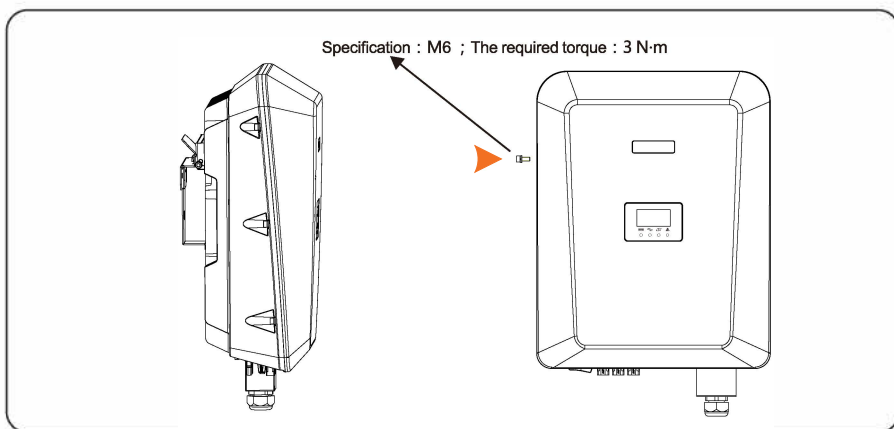

Figure 4.15 Securing the inverter
Step 7 Lock the inverter with the rear panel and ensure that the inverter is secured by checking for resistance when a slight pull is applied, as shown in Figure 4.15.